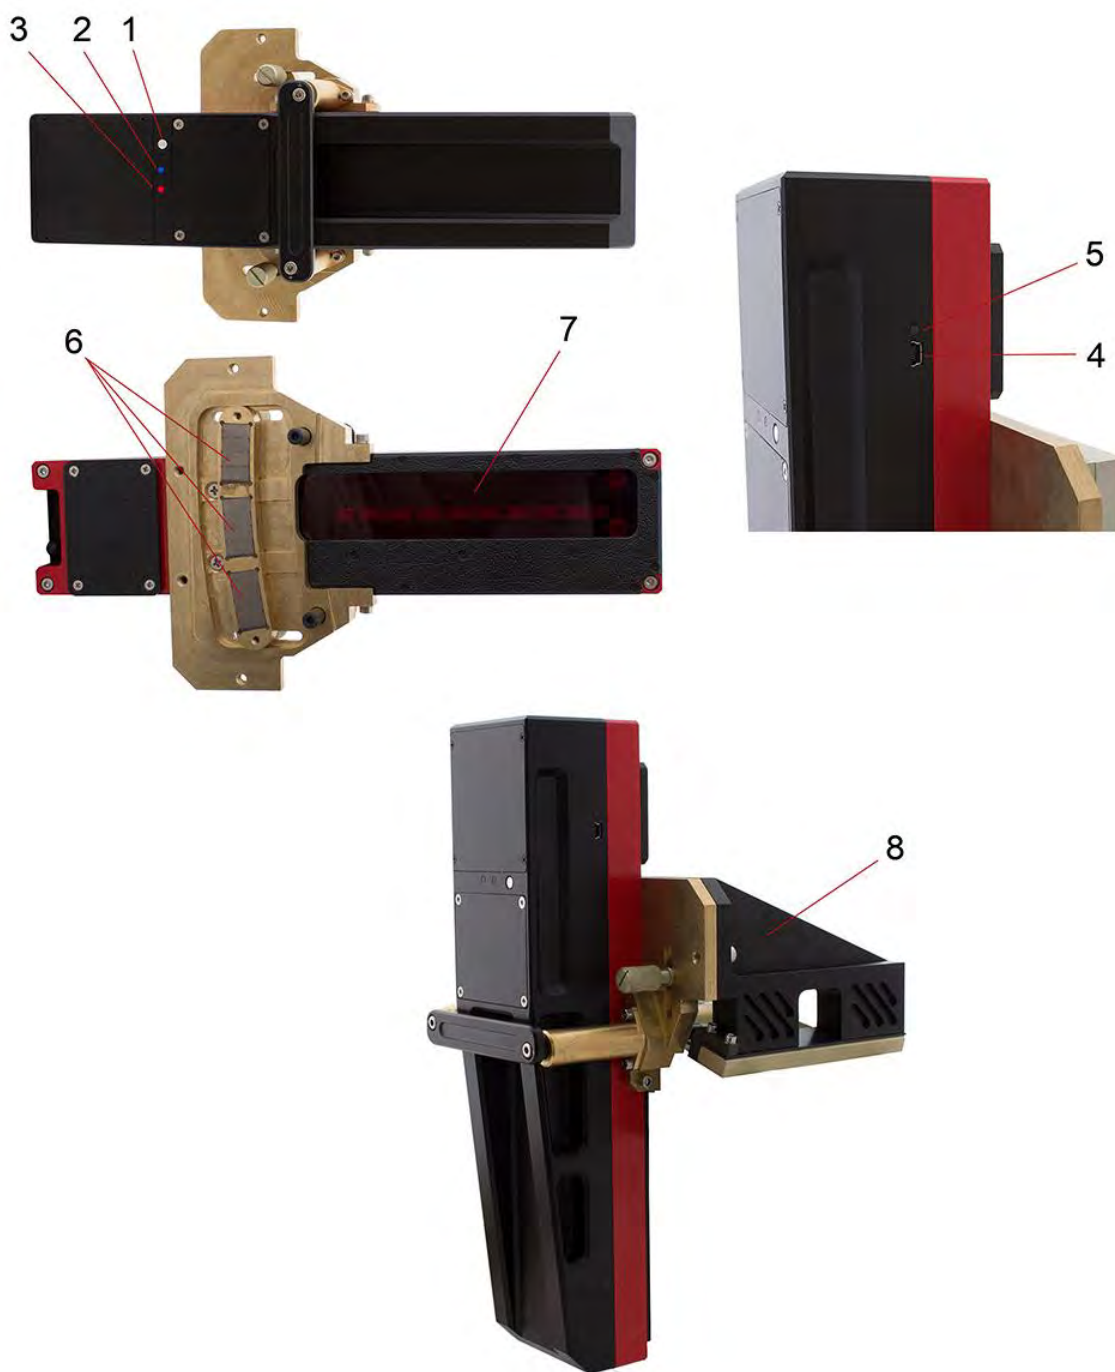

Figure 5
Dimensions of laser scanning module, mm	see Fig. 5
Figure 5 indicates:
- Switch the laser module on by pressing and holding button 1 (Fig. 5) for several seconds. When connecting the laser module, a red LED blinks (3).
- After the laser module is switched on, some time will pass until automatic wireless communication is set between the profilometer and the PDA, which is accompanied by blinking of a blue LED (2) on the laser module. The LED goes out when the link is established.